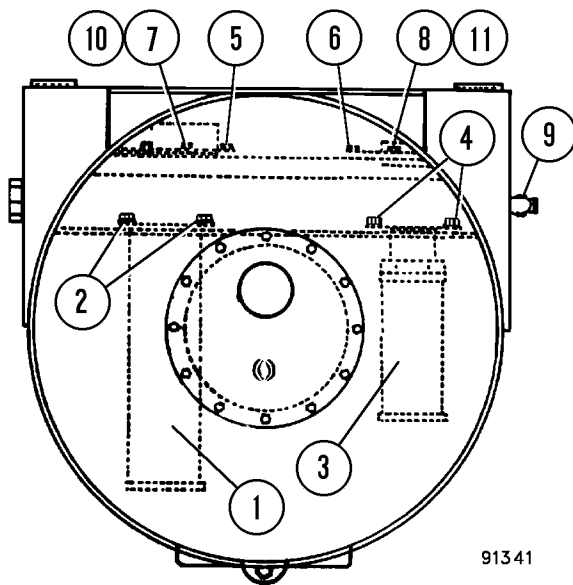

FIGURE 3-14. HYDRAULIC TANK (TOP VIEW)
2. Open the drain valve (9, Figure 3-14) at the bottom of the hydraulic tank and drain the oil.
4. Remove capscrews (5 and 6, Figure 3-14). Remove covers (10 and 11) and gaskets (7 and 8).
5. Remove capscrews (2 and 4). Pull strainer (1) and diffuser (3) from hydraulic tank.